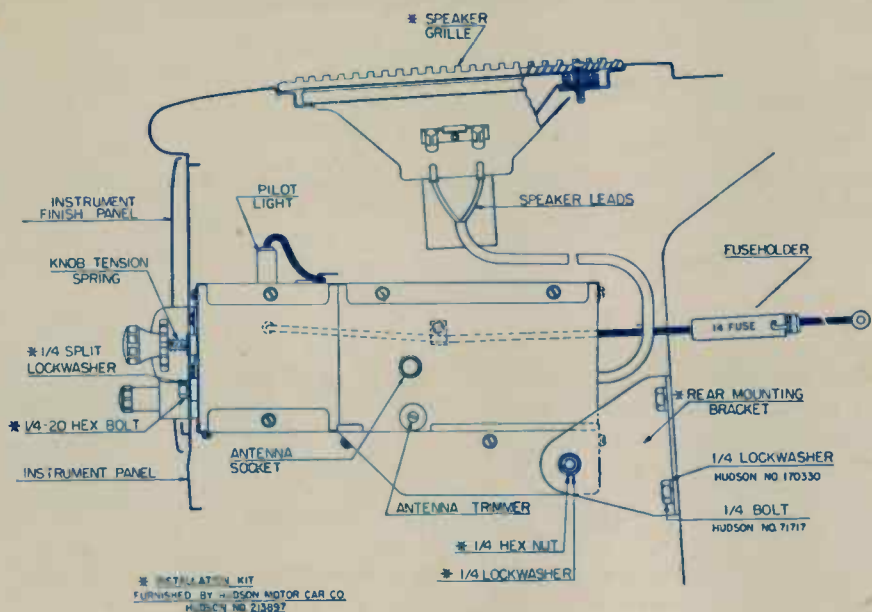

Fig. 2
11. Plug in antenna cable (Fig. 2).
18. IMPORTANT: Turn the receiver on and allow it to operate for approximately fifteen minutes in order for it to reach normal operating temperature. Tune in a weak station near 1200 Kc. With a small screw driver adjust the antenna trimmer, located on the right side of the receiver for maximum volume. (Fig. 2).